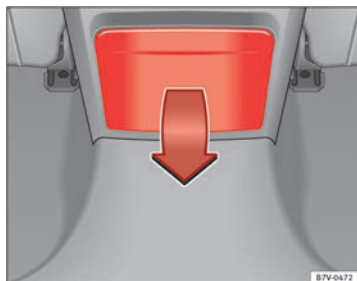

Fig. 117 Centre console, rear section: folding out the drink holder
- To *open*, move the drink holder downwards in the direction of the arrow ⇒ Fig. 117.